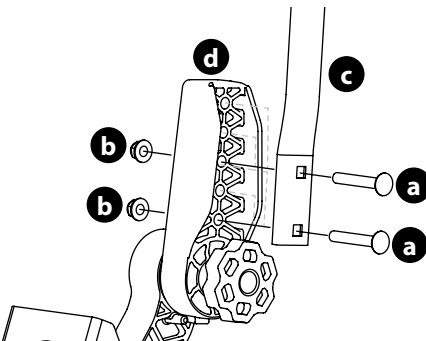

Figure 6
1. Remove the two carriage screws (a) and two flange lock nuts (b) that secure the lapbar drive control lever (c) to the upper handle adjuster (d) (Figure 6).
2. Move the lapbar drive control lever into one of the three available heights and secure in place with the carriage screws and flange lock nuts (Figure 6).